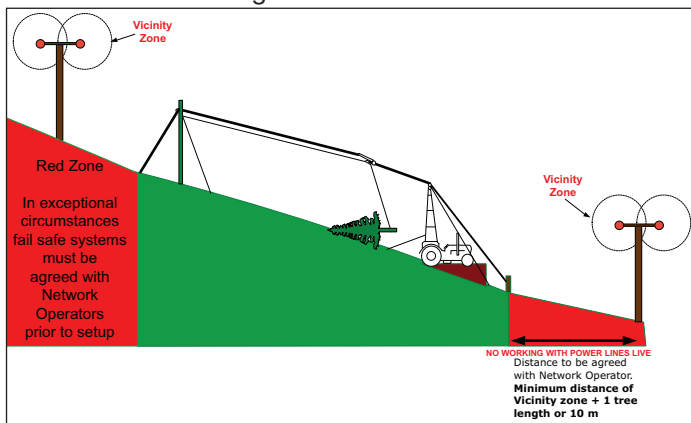

Figure 6: Cable crane set up
- Normally no part of the aerial setup (i.e. tower/mast, skyline, haul lines, guy, spar or supports) should be located within the Red Zone of an OHPL (see Figure 6). In exceptional circumstances it may, on occasion, be necessary to have guys or anchors but NOT running ropes located within this zone. This must incorporate fail-to-safe restraint systems and be agreed with the Network Operator – and the guys and anchors made of non-conductive material – no wire ropes or chains.